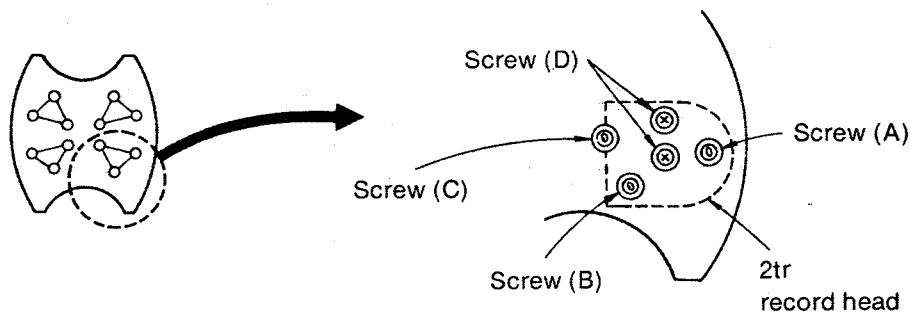

Fig. 45
- \* The screws for each adjustment are in the positions shown in figure 45.